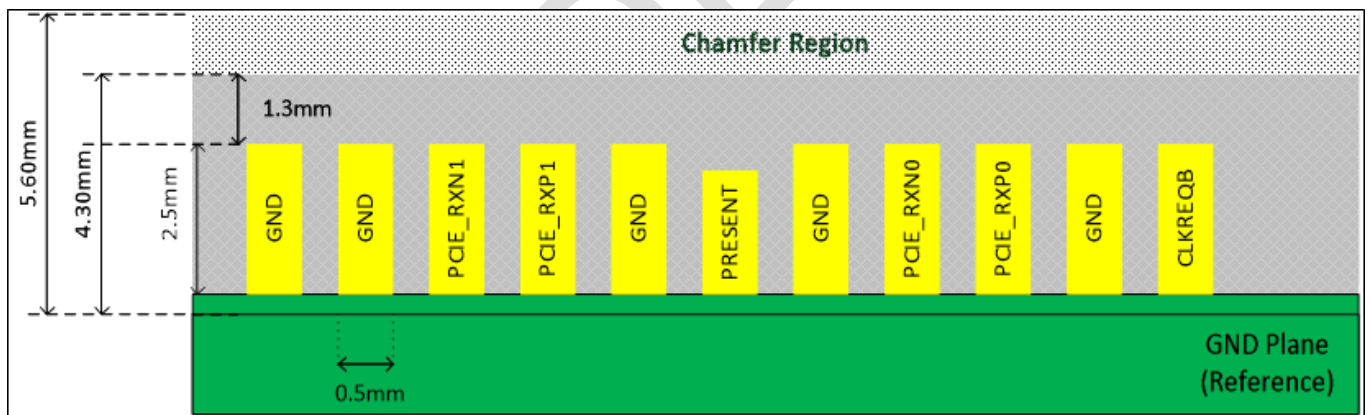

Figure 25: The Gap Between Edge-Fingers and Chamfer Region
- The length of **Add-in Card** edge-fingers is 2.5 mm. There is a 1.3 mm gap between the edge-fingers and the chamfer region is shown in Figure 25: The Gap Between Edge-Fingers and Chamfer Region